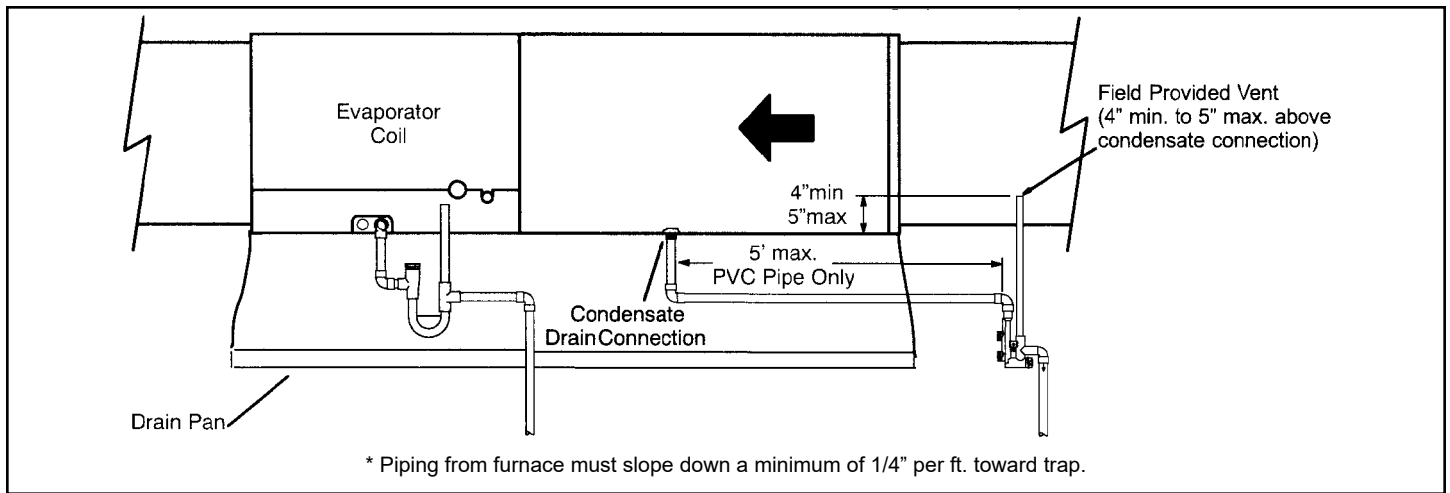
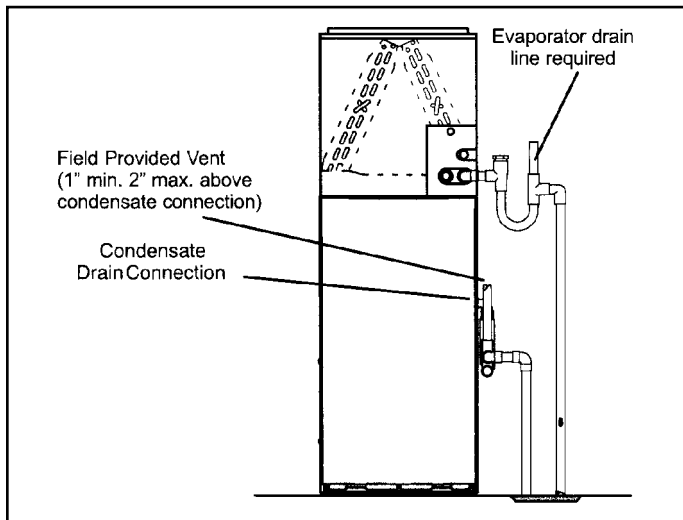
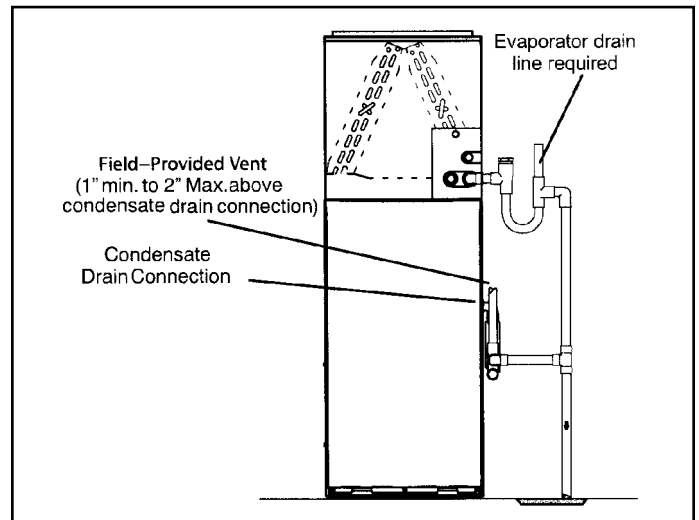

Figure 55. Condensate Trap Locations
Figure 56. Unit with Cooling Coil Using Separate Drain
Figure 57. Evaporator Coil Using a Common Drain
5. Figure 55 and Figure 56 show the furnace and evaporator coil using a separate drain. If necessary the condensate line from the furnace and evaporator coil can drain together. See Figure 57 and Figure 58.
Horizontal furnace (Figure 55) - In horizontal furnace applications the field provided vent must be minimum 4" to a maximum 5" length above the condensate drain outlet connection. Any length above 5" may result in a flooded heat exchanger if the combined primary drain line were to become restricted.